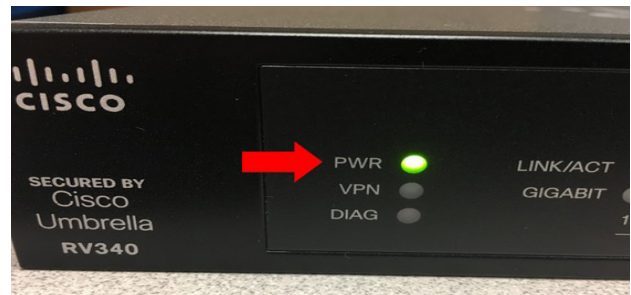

Figure 1
3. On the front of the router are indicator lights. One of the indicator lights shows "PWR", the indicator light for device power. While this indicator light is flashing, the router is booting up. (Figure 1)